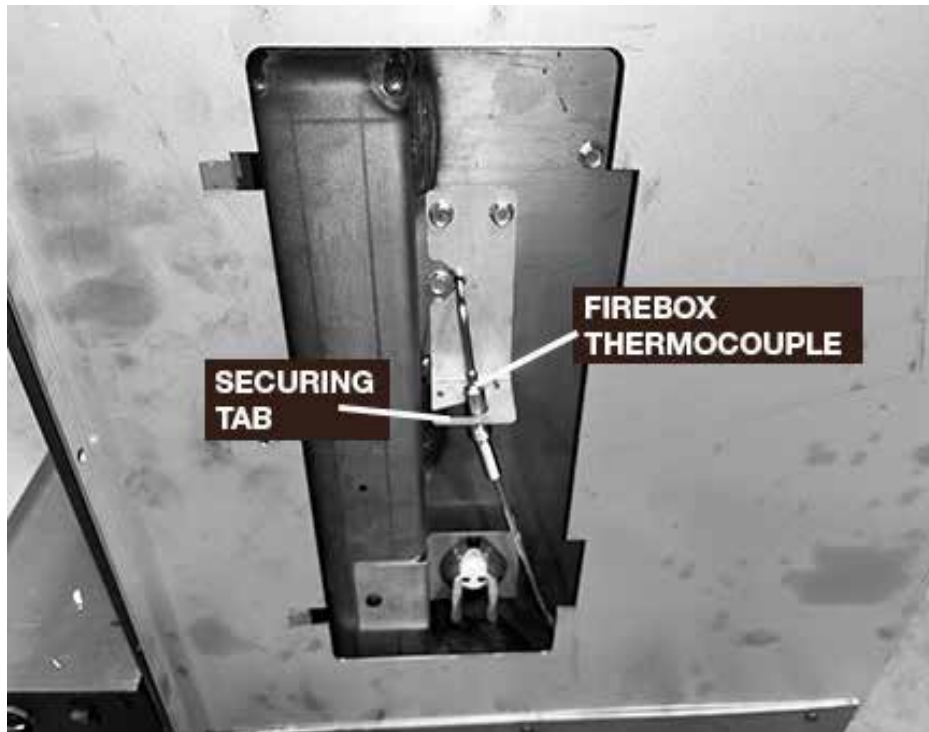

Figure 18: Firebox thermocouple connection.
6. Bend the securing tab up approximately 45 degrees then rotate the thermocouple in a clockwise direction and carefully pull out of the firebox side. Figure 18. Guide the wire and thermocouple out through the access cover opening.